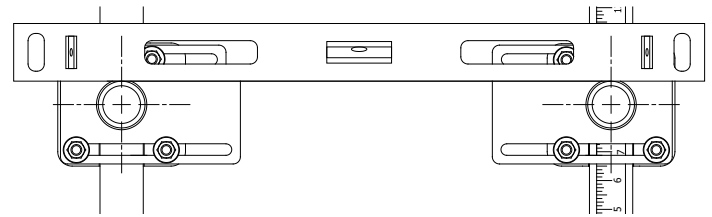

Fig. 4
- d. Place level on top of both header sleeves and adjust height until level. See Fig 4